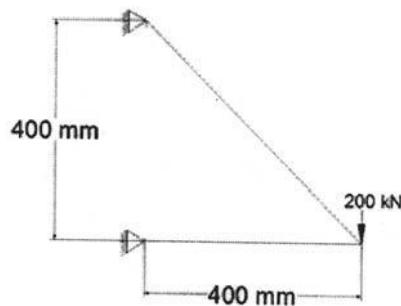

Fig. 1
7. two bar Truss is shown in Fig 1. Determine nodal displacements, support reactions and element stresses. Area of both element is 1000 mm^2 and $E = 200 \text{ GPa}$.